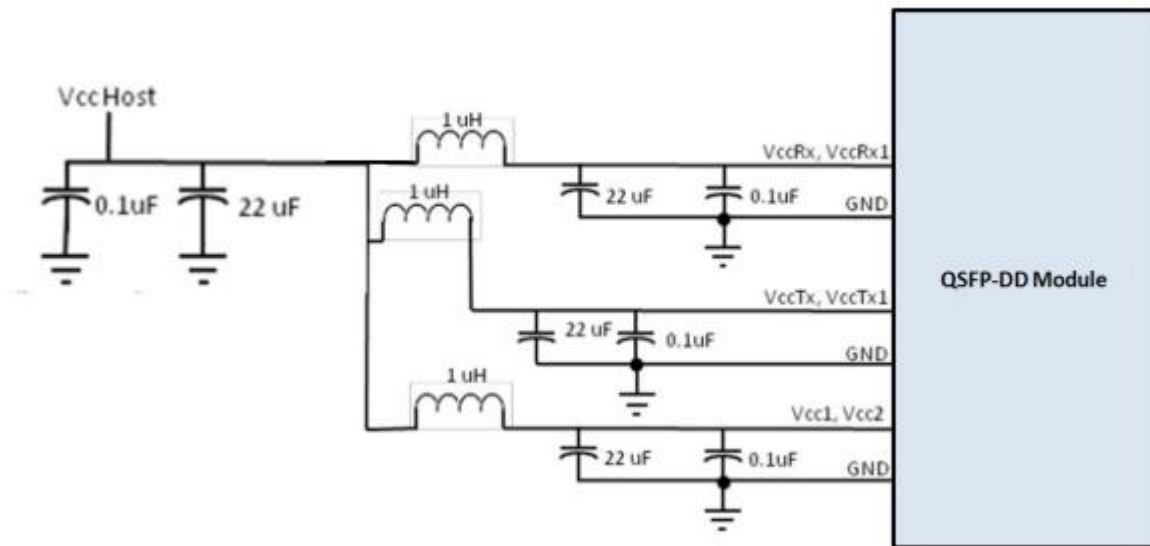

Figure 4 Power supply Filter
2. VccRx, Vcc1 and VccTx, VccRx1, Vcc2 and VccTx1 are the receiving and transmission power suppliers and shall be applied concurrently. Recommended host board power supply filtering is shown in Figure 4 below. VccRx, Vcc1 and VccTx, VccRx1, Vcc2 and VccTx1 may be internally connected within the module in any combination. The connector pins are each rated for a maximum current of .